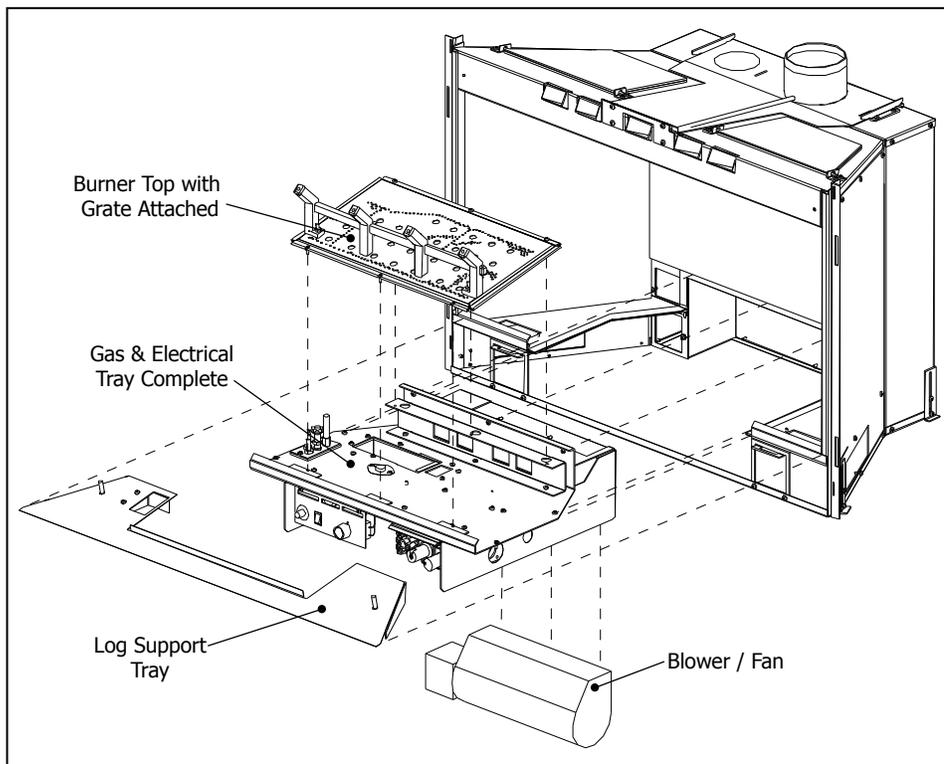

Figure 18: Removing burner and gas tray.
6. Remove the three (3) T-20 screws just above the burner top on the back firewall (see Figure 18) and the two (2) screws on each side below the burner top. Carefully remove the complete gas and electrical tray assembly from the firebox, ensuring that no wires or gas lines are damaged.
7. Remove the blower and housing from the gas tray assembly by removing the three (3) fastening screws located on the back of the gas tray assembly. Pull the fan out from under the gas tray. Disconnect the wiring from the fan temperature sensor and remove fan.